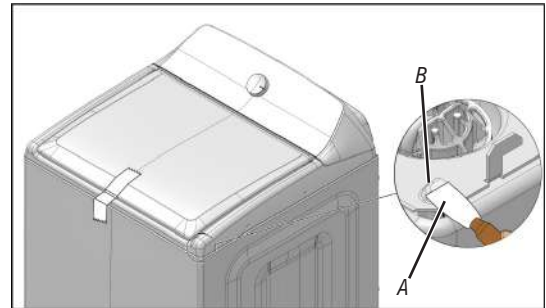

Figure 1
4. Remove three (3) 1/4" (6 mm) hex-head mounting screws from the rear of the console as indicated. Remove harness cover and set aside.
5. To remove the top panel, a tool such as a stiff putty knife must be used. Slide the putty knife in between the cabinet and the top panel in the front corner as shown in Figure 1. The putty knife will allow the top to be slid forward slightly and removed. Repeat on other front corner. Carefully use these tools to avoid damaging the finish on the consumers unit.